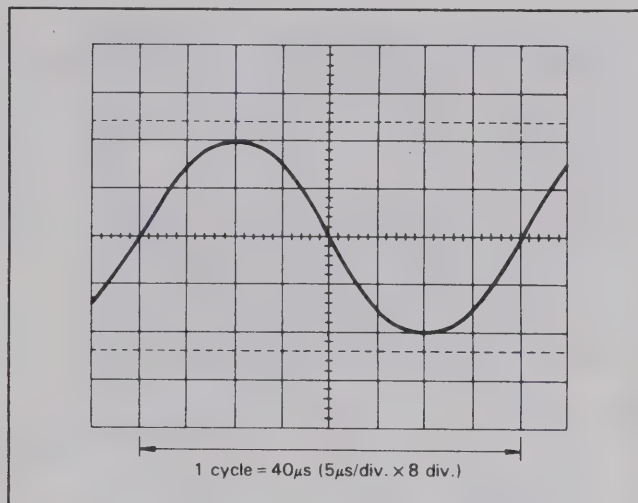

Fig. 12. Frequency Measurement.
(Refer to Fig. 12)
1. Set up the oscilloscope to display one cycle of waveform (see Fig. 12).
In the example shown in Fig. 12, a period of 40 μs is observed. Substituting this value into the above equation, the frequency is calculated as follows: